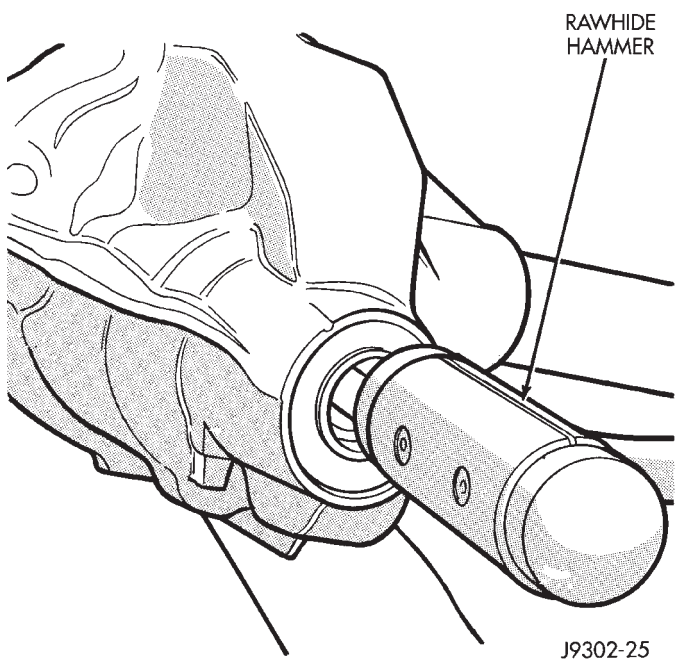

Fig. 26 Remove Pinion Gear
(3) Remove the pinion gear from housing (Fig. 26). Catch the pinion with your hand to prevent it from falling and being damaged.